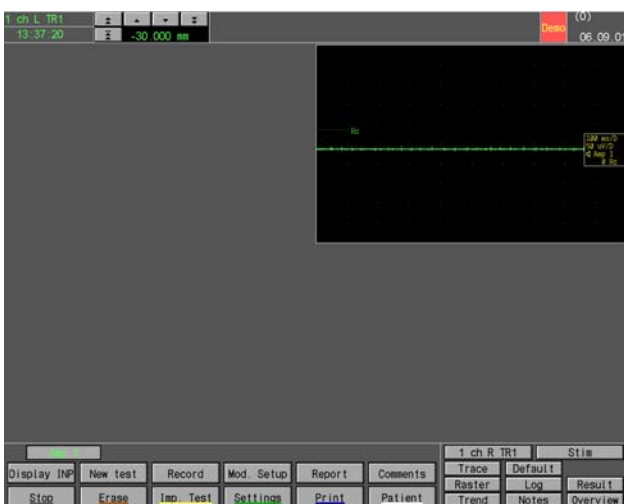

Figure 27 Trace Window in upper-left Quarter Position
- In this list box, select and click the "upper-left quarter zoom feature button" which is situated in the second topmost level in the fourth column to the left, and the selected window screen composition appears, see Figure 27 below:
- First you click **Trace** in the lower-right part of the screen, and the Multiple Selection List Box appears, see Figure 27 above.